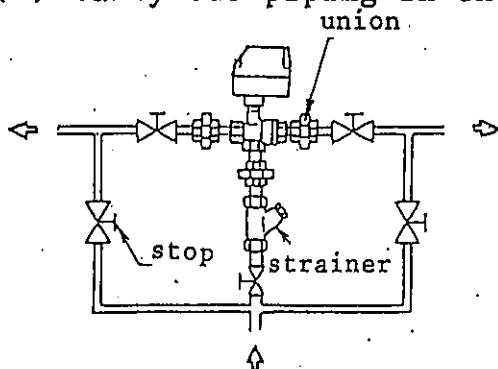

Fig.5
- (1) Install the valve either in vertical or in horizontal position, with the motor unit at the top. Note that the drip-proof property of the valve is effective only for vertical installation.
- (2) Carry out piping in the manner shown in the Fig 5.